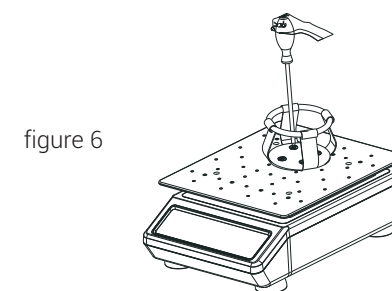

figure 6
1. Fasten flask clamp and infusion bottle clamp onto the platform with screws as shown in the figure 6.